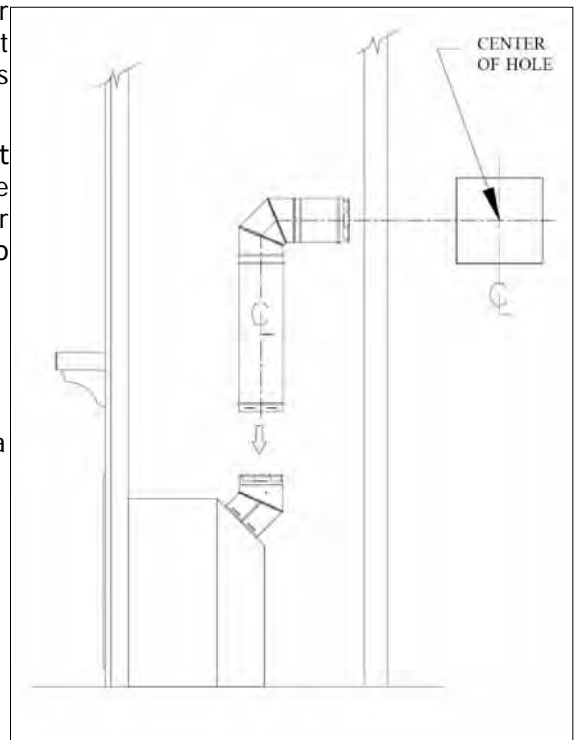

Figure 35: Horizontal Venting and Cut Away.
Step 3. With the adaptor and pipe attached to the fireplace, slide the fireplace into its correct location, and mark the wall for a square hole of the appropriate size. Use 11"x11" (280x280mm) square hole for 8" x 5" pipe. The center of the square hole should line up with the center line of the horizontal pipe, as shown in Figure 35. Cut and frame the square hole in the exterior wall where the vent will be terminated. If the wall being penetrated is constructed of non-combustible material, i.e. masonry block or concrete, a hole with zero clearance to the pipe is acceptable.